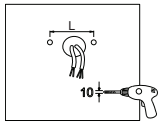

Fig. 6
- 4.) Drill two (2) holes into the mounting surface using the yoke mount as a template (**Fig. 6**).